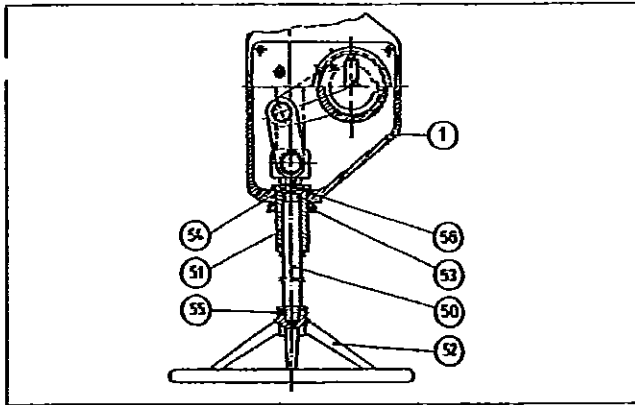

Fig. 24. BJAR actuator
The BJAR actuator is otherwise like the BJA, except that it can be operated manually to bring the piston to the upper position against the spring in case there is no air supply. The BJA actuator can be changed into a BJAR by replacing the housing (1) and adding parts (50 to 56), see Fig. 24.
If stiffness or noise occurs when the actuator is operated with the handwheel, check the condition of the bearings (56), see Fig. 24. Other maintenance as described for the BJA actuator in section 4.3.
Parts list for Fig. 24: